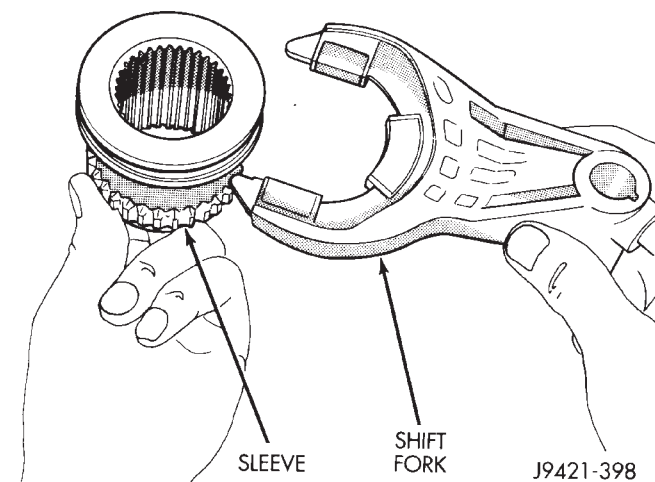

Fig. 35 Separating Shift Fork And Sleeve
(21) Separate shift fork and sleeve (Fig. 35). Note position of sleeve for installation reference.
(22) Roll case on side and off wood blocks.